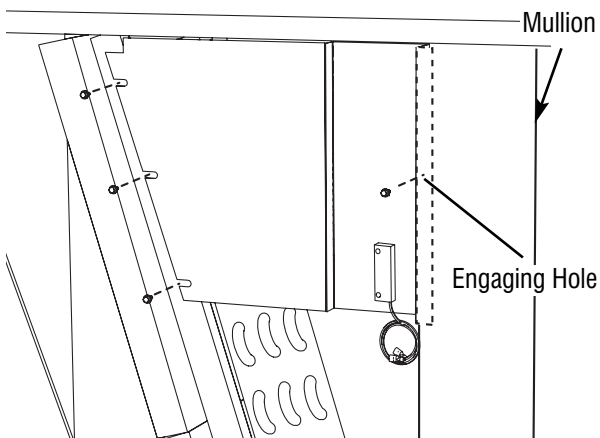

Fig. 9 Mount shield in coil compartment.
1. Mount coil compartment shield to frame with included sheet metal screws. Mullion is in front of shield flange. (Fig. 9.)